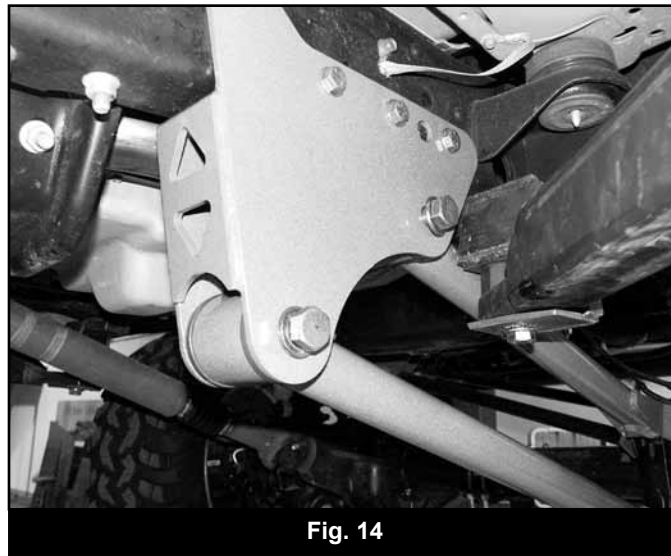

Fig. 14
41. Install the assembled upper control arm in the new frame bracket and fasten with a $\frac{3}{4}$ " x 5-1/2" bolt, nut and $\frac{3}{4}$ " SAE flat washers from bolt pack #432. The two tabs on the control arm go up. Leave hardware loose. (Fig. 14)